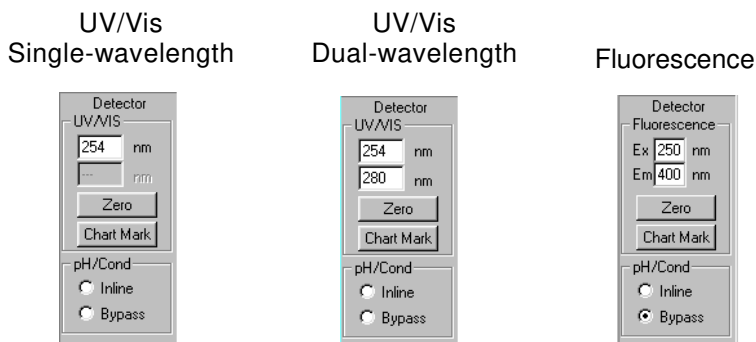

Figure 5-12 Detector Section of Control Panel
2. If you enable single wavelength, type a **wavelength** in the top text box in the Detector section of the Control Panel (Figure 5-12).
4. If you enable dual-wavelength, type **wavelengths** in both text boxes in the Detector section of the Control Panel (Figure 5-12).
2. Type **Excitation** and **Emission wavelengths** in the Detector section of the Control Panel (see Figure 5-12).
Click the **Zero** button in the Detector section of the Control Panel to zero the detector signal (see Figure 5-12).
Click the **Chart Mark** button in the Detector section of the Control Panel to add a mark to the Strip Chart Recorder (see Figure 5-12). This action also adds a Chart Mark event to a running method.
Click the **Bypass** option button in the Detector section of the Control Panel to take the pH and conductivity monitors out of line. Click the **Inline** option button to place the pH and conductivity monitors inline (see Figure 5-12).